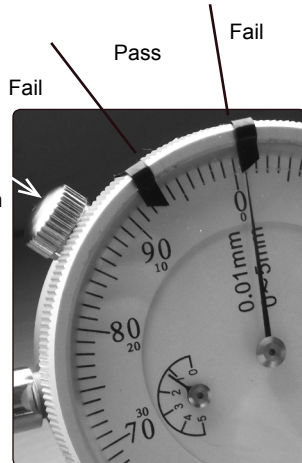
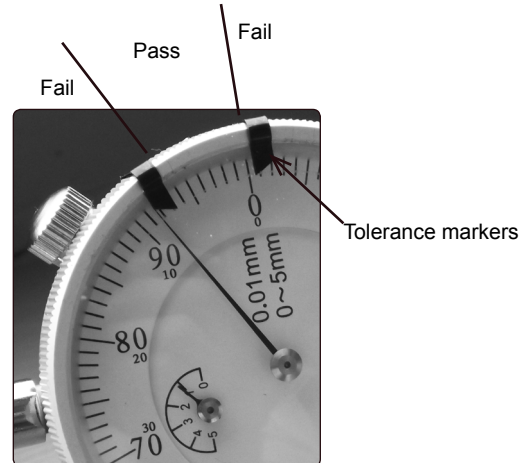

fig.6
fig.7
- 5.2.7. The tolerance band can now be set using the two "markers" on the bezel. Our example states the tolerance band to be +0.074 to -0. Set one marker opposite and in line with "0" [zero] (fig.6) and the other +7.4 (fig.7) divisions apart. Note! the larger the deflection the smaller the bore.